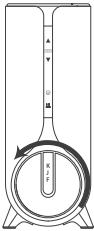

Figure 23
- (1) Close the tap and wait for 30 seconds to fully release the pressure of the system.
- (2) Remove the old filter. Remove the old filter by rotating it 90° degrees counterclockwise (Figure 23).